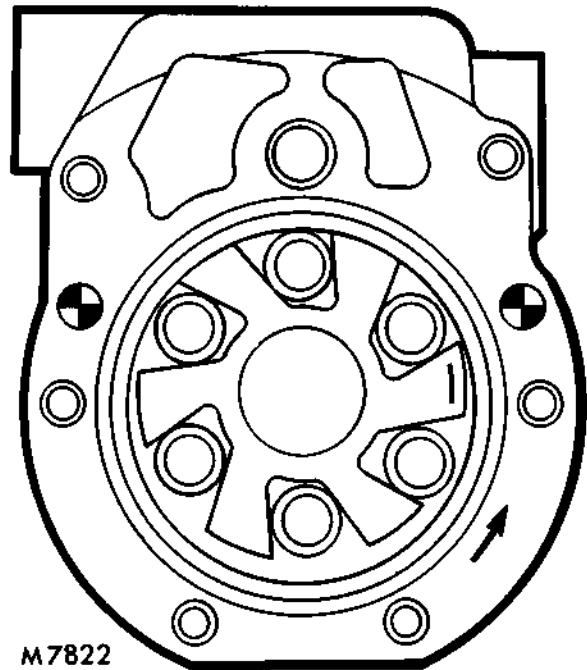

FIG. 4. CORRECT INSTALLATION OF ROLLERS AND CARRIER
5. Refit roller vanes; see Fig. 4 for correct installation of rollers and carrier.